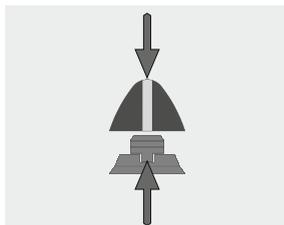

Figure 6
- The correct position is achieved, if the mat line on the cap is aligned parallel with the two notches in the mounting point nut (see fig. 6). In this position, the cap is firmly placed on the nut and waterproof, but still removable.